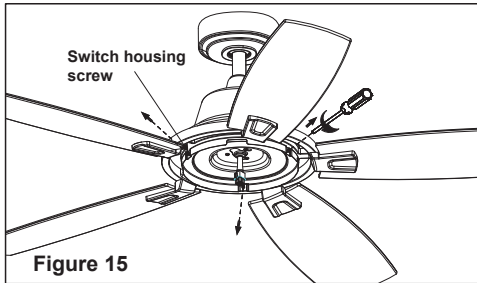

Figure 15
Step 8. Remove one of three switch housing screws on the side of switch housing and keep for later use, then loosen the other two. (Figure 15)